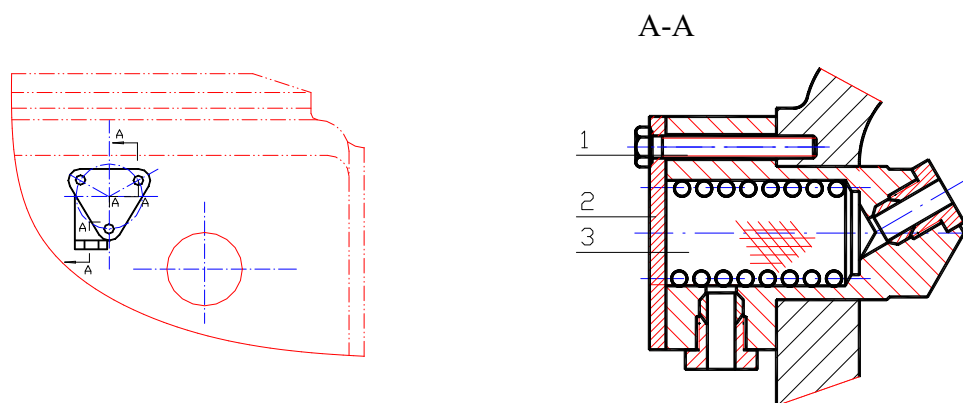

Fig. 34 Oil filter of headstock
- The copper filtering net of the oil filter at entering oil position of the headstock should be weekly cleaned for ensuring of lubricating oil see Fig. 34. Operating steps are as follows.
- a) Screw out the screw (1) and take down the trigonal cover (2).
- b) Wash the copper net (3) in cleaning kerosene, then, re-install it in the oil filter.
- c) Cover the trigonal cover (2), screw up the screw (1).